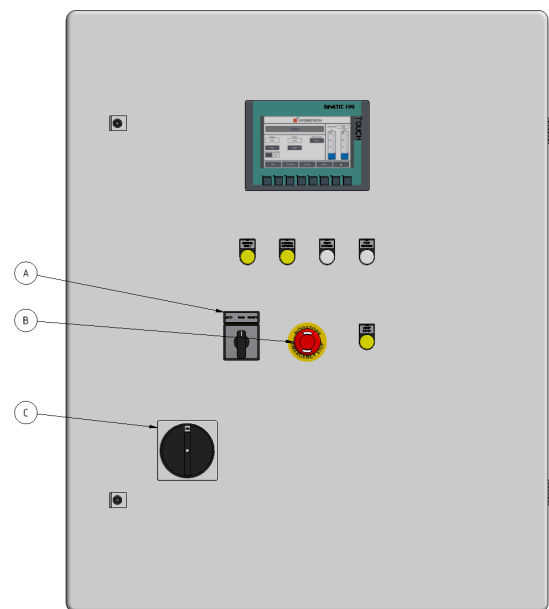

Figure 2.3 Hydrotech control cabinet PFLC.
- ▶ Before carrying out maintenance work, the main power switch (see Figure 2.3) must be turned to the OFF (0) position and locked with a padlock.
The filter is equipped with an emergency stop and a main power switch (see Figure 2.3).